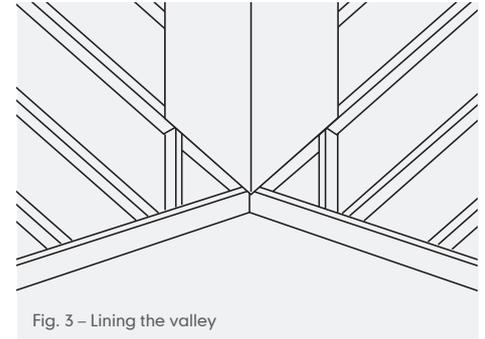

Fig. 3 – Lining the valley
- 3 The width of the valley boards should extend by a minimum of 50mm beyond the edge of the valley trough. For overlaid boards on rafter spacings above 450mm, it is recommended that support noggins of 75 x 50mm are fixed under the outer edge of the valley board between the rafters (Fig. 3).
- 4 A single strip of underlay no less than 600mm should be laid down the valley and directly onto the top of the boards allowing for an overlap beyond the fascia line where appropriate and which may be trimmed later (Fig. 3).